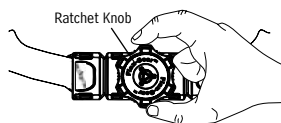

Figure 16
4. Adjust ratchet knob until snug and comfortable fit achieved. (Figure 16)